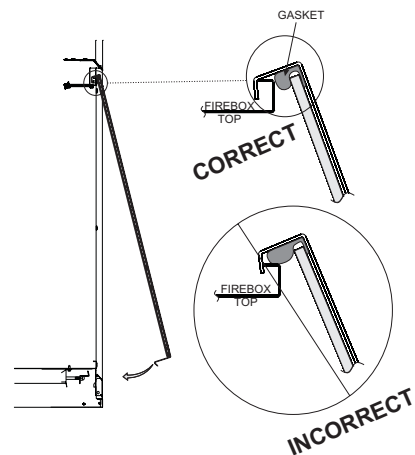

Figure 95
1. When installing the Glass Door assembly, make sure that the door top flange is hooked over the firebox top flange as illustrated in the "Correct" view in **Figure 95**.
Important: Do not allow the gasket across the top of the door to roll up on top of the firebox flange as shown in "Incorrect" view in Figure 95.